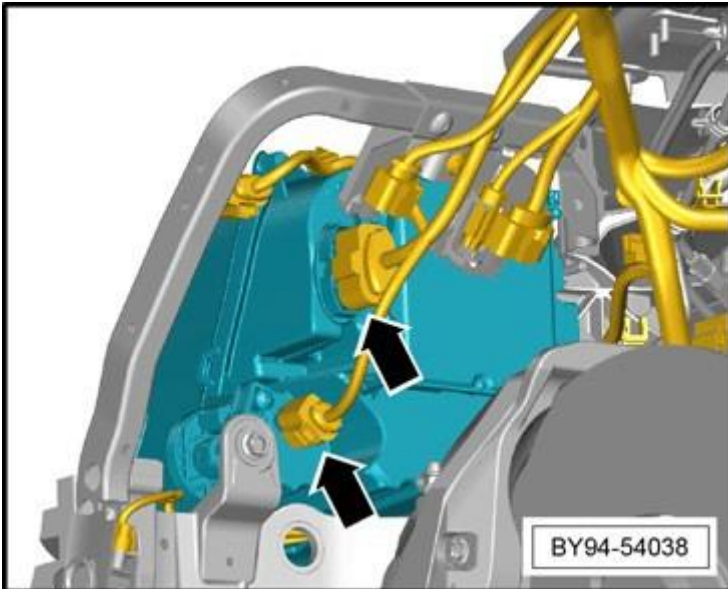
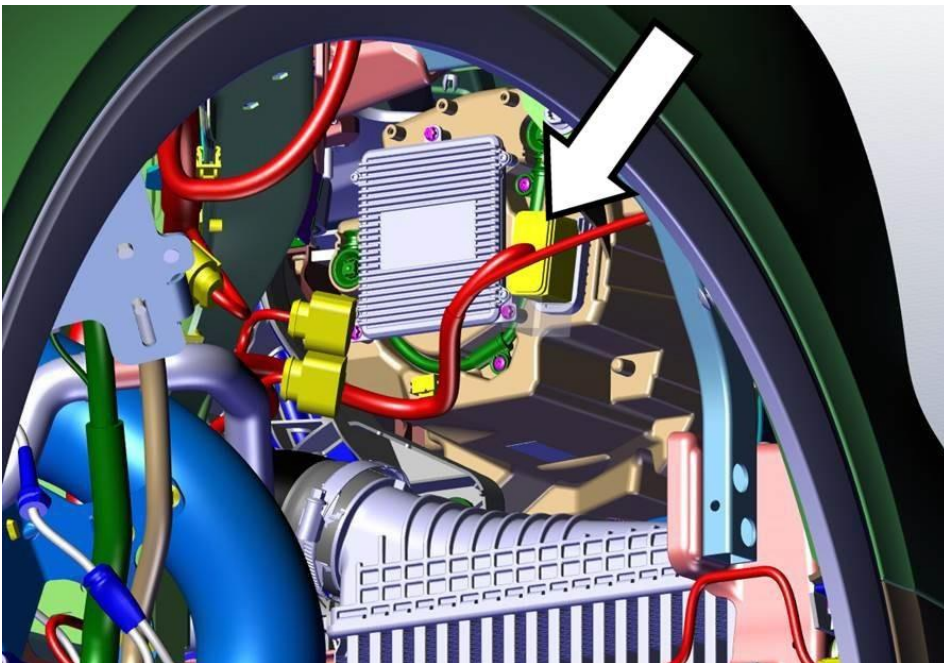

Figure 1
Figure 2
- 2) Referring to the examples shown in Figure 1 (New Continental GT/C and New Flying Spur) and Figure 2 (Bentayga)